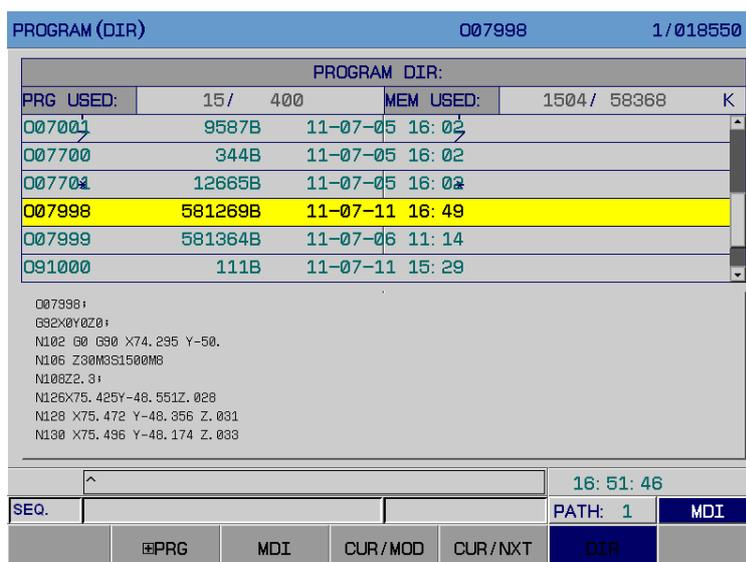

Fig. 3-2-4
I. Press soft key 【DIR】 to enter program (DIR) page, the contents of which are displayed as follows (Fig.3-2-4):